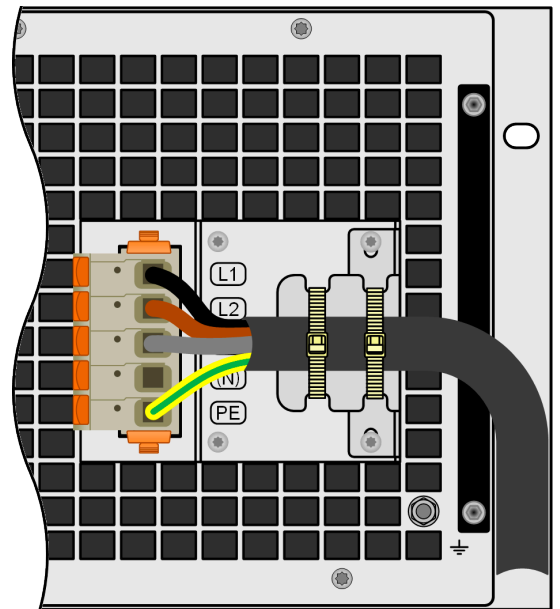

Figure 12 - Pre-assembled strain relief
2. Attach the mounting bracket and secure it with the longer screws (M3x8) and washers provided. See *Figure 12*.